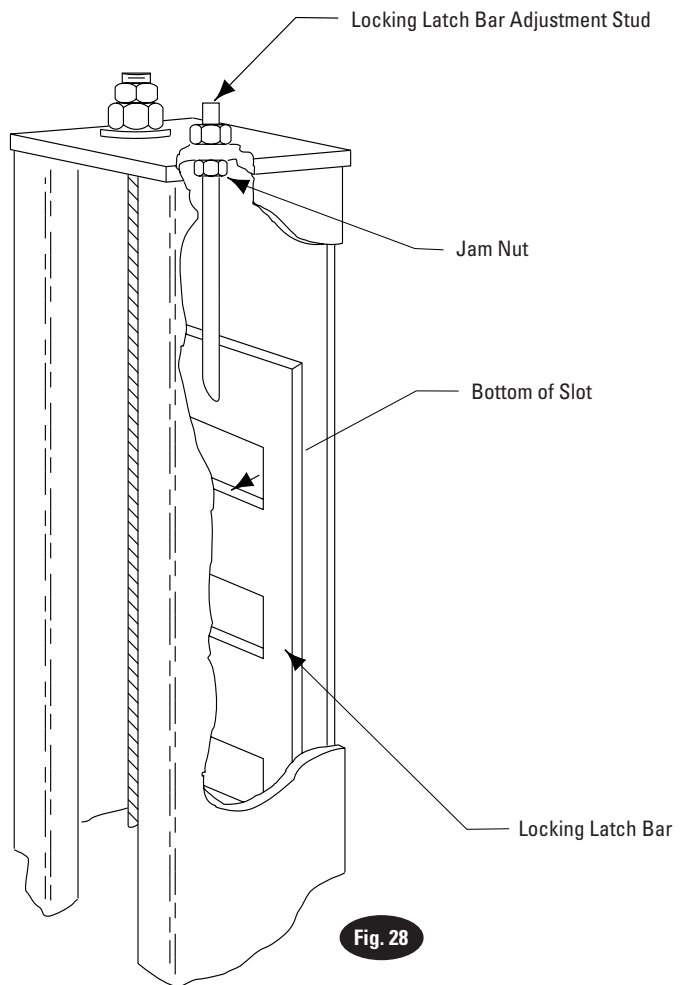

Fig. 28
3. Adjust locking latch bar adjusting nut so that the bottom of the topmost latch bar slot is at least 2" below locking latch, Fig. 28. After adjustment, tighten jam nut underneath column top plate, Fig. 28.